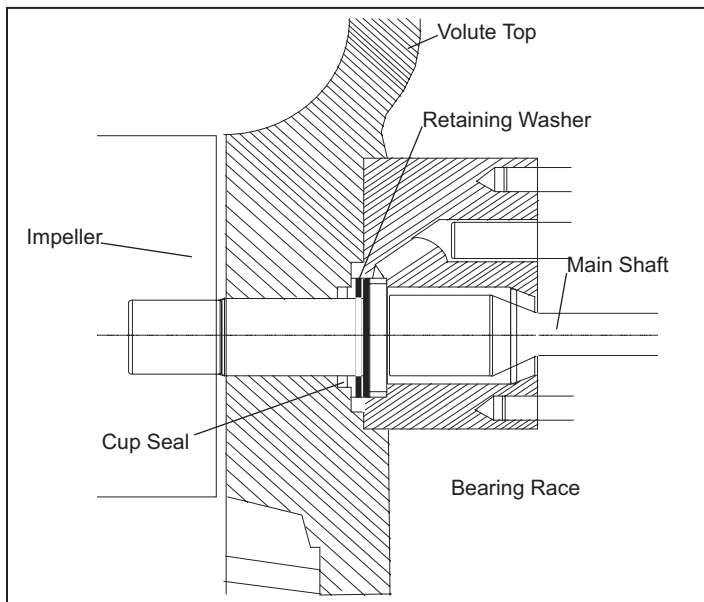

Figure 2. Cup Seal and associated parts
5. If oil leakage around the main shaft is evident, the cup seal must be replaced. The seal is shown in Figure 2 and is supplied in the seal kit.